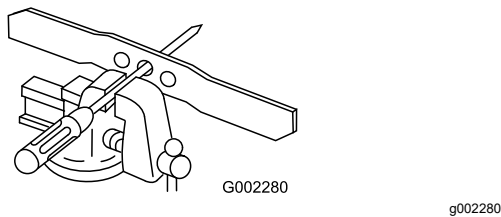

Figure 30
1. Check the balance of the blade by placing the center hole of the blade over a nail or screwdriver shank clamped horizontally in a vise (Figure 30).